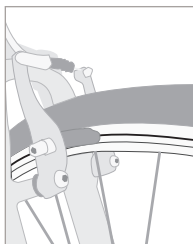

FIGURE 3.27
- **Aluminum rims:** A shallow groove is found around the rim (Figure 3.27). If the outer rim surface is worn such that the groove is no longer visible in any spot, replace the rim.